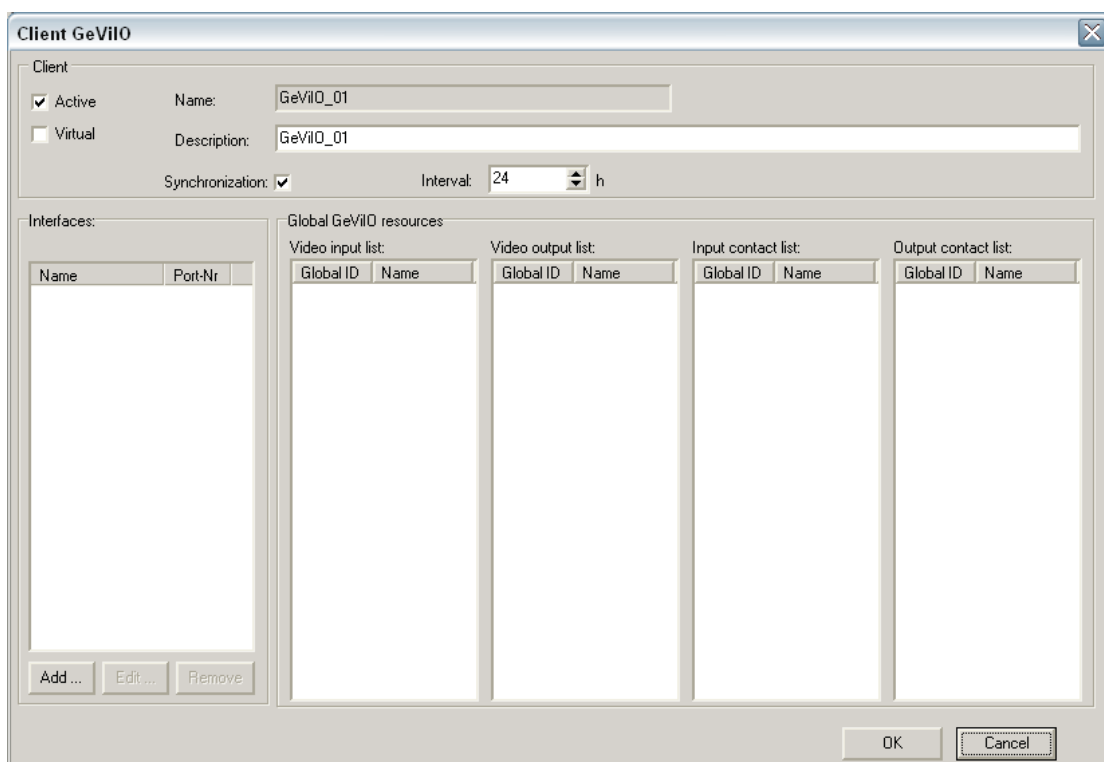

Figure 8-6: GeViIO client configuration
- Now select the first GeViIO client that you added to the client list and click on "Configure". The GeViIO configuration dialog box is opened (**figure 8-6**).
After confirming with "OK", the interface "ARGUS" is entered into the list (left-hand field, figure 8-6).